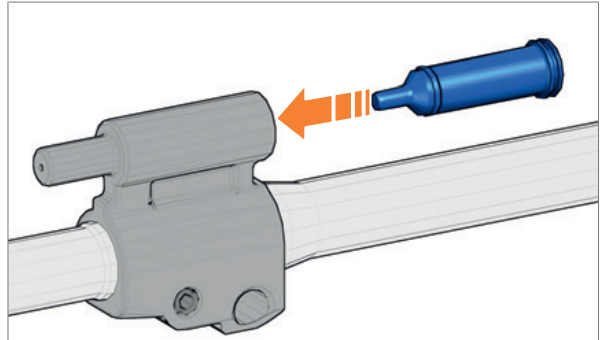

Fig. 129: Insert gas piston
1. Insert gas piston into the gas block (Fig. 129).